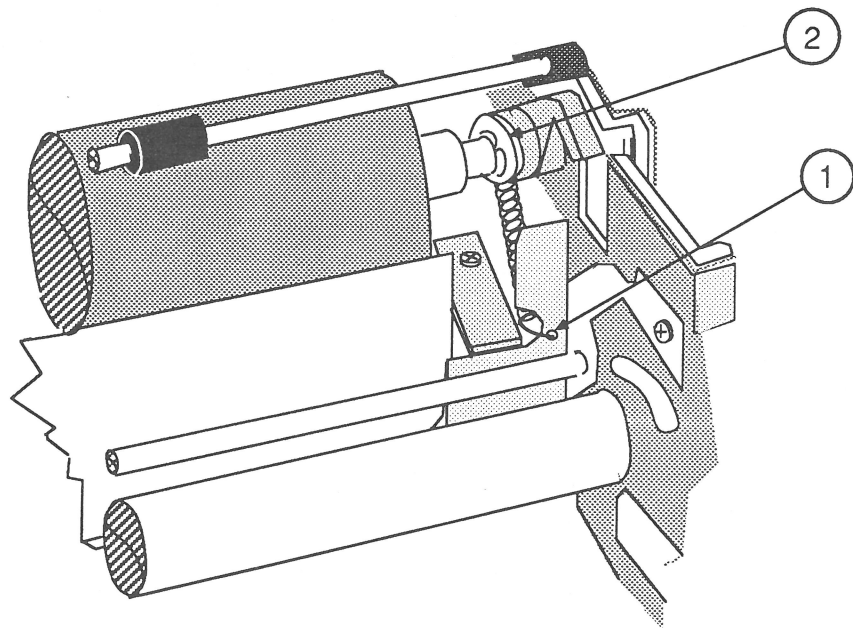

FIGURE 15
3. Snap the left and right gap adjustment cam E-rings into place (Figure 15, #2). Make sure the metal washer is **behind** the E-ring.
4. Attach the left and right springs (Figure 15, #1) between the gap adjustment cams and the paper guide plate.